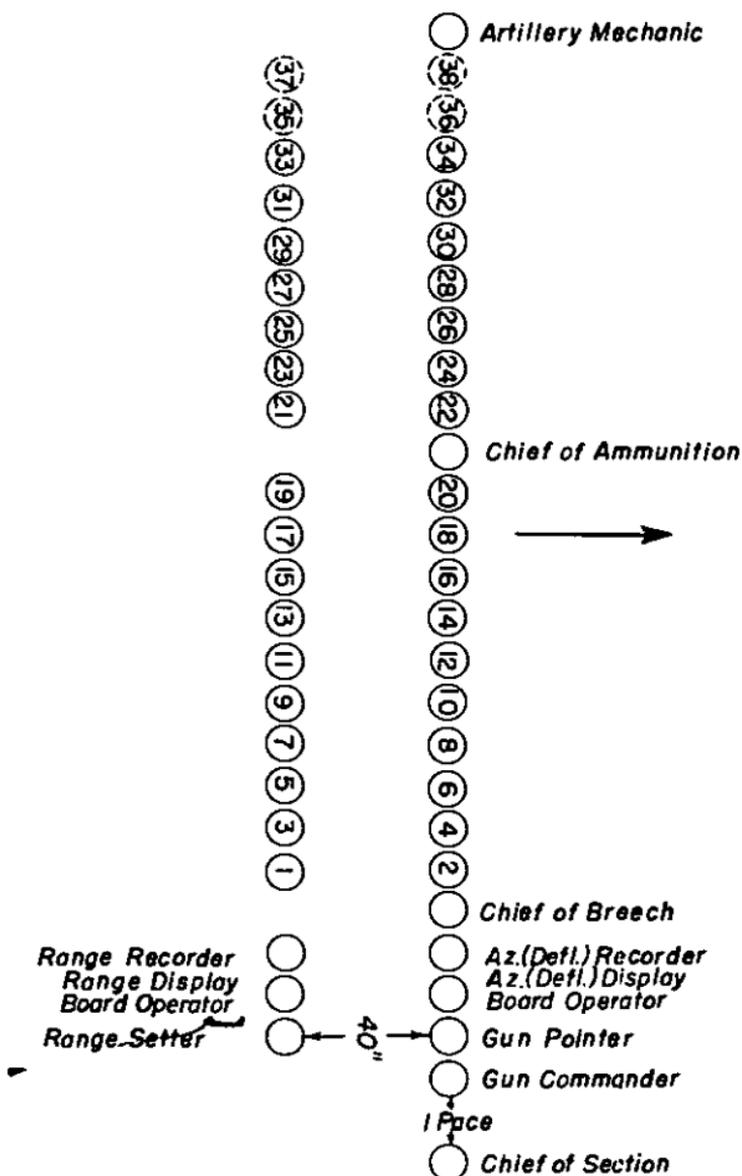

FIGURE 1.—Formation of the gun section.
■ 6. **FORMATION.**—Each section assembles in two ranks with 4 inches between files and 40 inches between ranks. The post of the chief of section is in the front rank, 1 pace to the right of his section. The artillery mechanics who are members of the maintenance section normally form with the firing section, and take post in the front rank on the left of the first and last gun sections. (See fig. 1.)